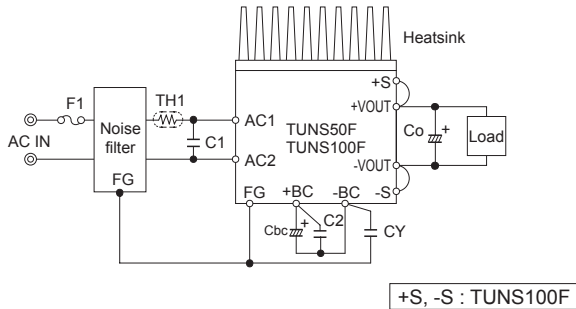

Fig.1.1 Connection for standard use
- To use TUNS series, connection shown in Fig.1.1 and external components are required.
(1) Co : Output capacitor
■ Install an external capacitor Co between +VOUT and -VOUT pins for stable operation of the power supply (Fig.1.1).